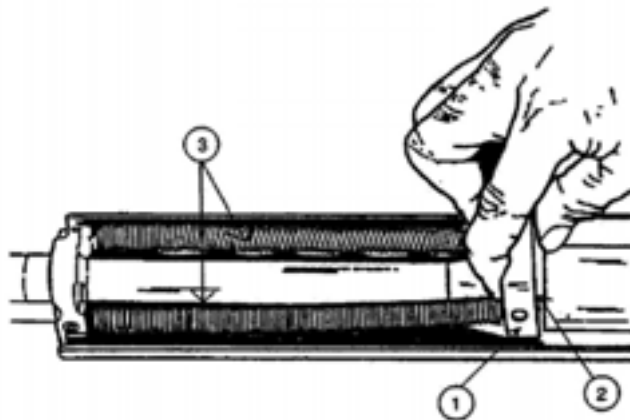
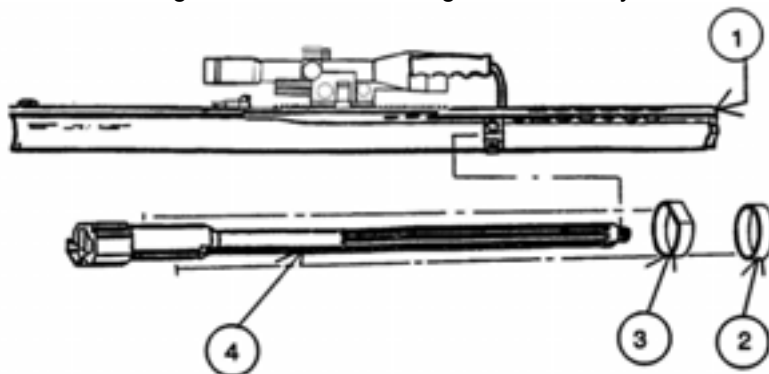

Figure 2-19. Withdrawing the Barrel Key
Figure 2-20. Removal of Front and Rear Barrel Bumpers
- (2) Withdraw the barrel key (1), Figure 2-19, from the slot (2) in the barrel by slowly working it out, and be prepared to assume the tension of the barrel springs (3). Slide the barrel (4), Figure 2-20, out the rear of the upper receiver (1). The impact (2) and battery (3) barrel bumpers can also be slid off the barrel.